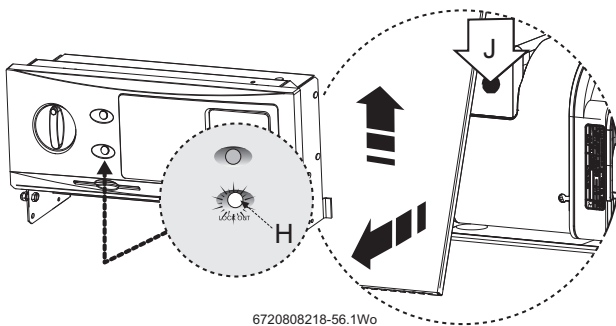

Fig. 72
- ▶ Wait two minutes then press the lockout reset button [J] (→ figure 72) to initiate another start sequence.